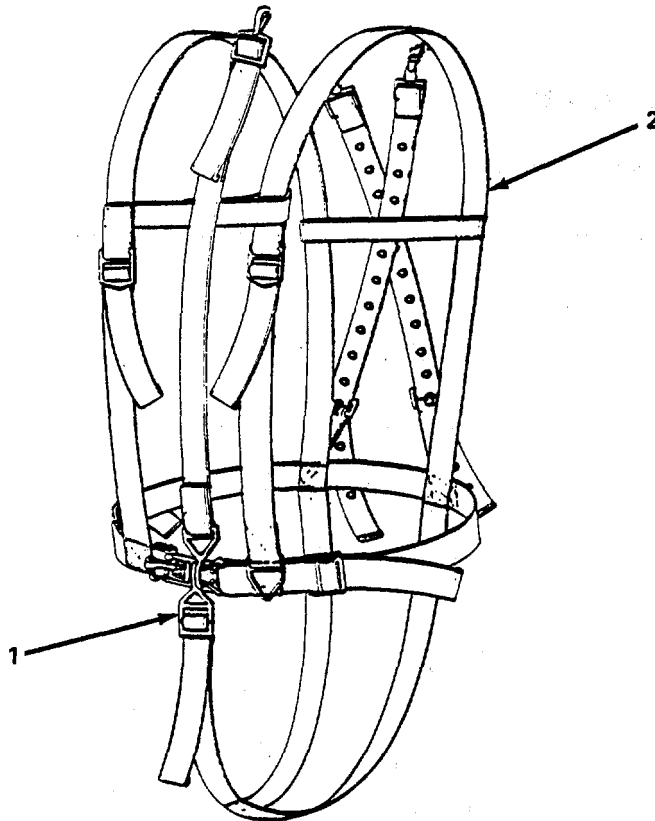

Figure 4-9. Hardware, Replace.
(2) *Replace hardware.* (figure 4-9)